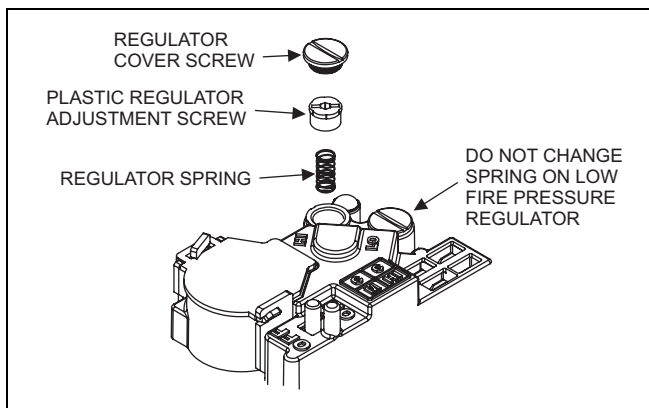

FIGURE 1 : 36G 2-Stage Model
8. Adjust the manifold pressure on low fire by turning the 3/32" set screw below the low adjustment seal screw either clockwise (to increase) or counterclockwise (to decrease) as required until the manometer reads 4.0" w.c. Using this same procedure, adjust the manifold pressure on high fire to 10.0" w.c. Refer to Figure 1 for location of low and high fire set screws. These settings will result in a propane gas input which is the same as the natural gas input found on the unit rating plate. When adjustments are complete, replace adjustment seal screws.